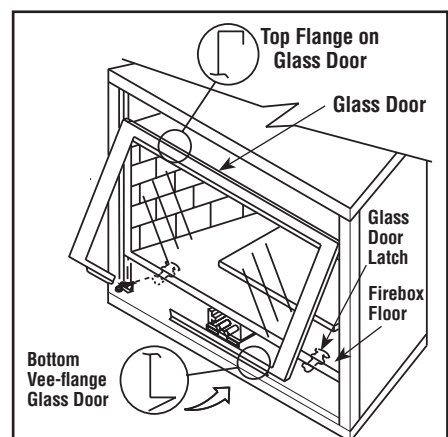

Figure 11- INSTALLING GLASS DOOR
Removing Glass Enclosure Panel (see Figure 11)
Installing Glass Enclosure Panel (see Figure 11)
2. Position the glass enclosure panel in front of the firebox opening at a 45 degree angle and engage the top flange over the lip at the top of the firebox opening. **See Figure 11.**